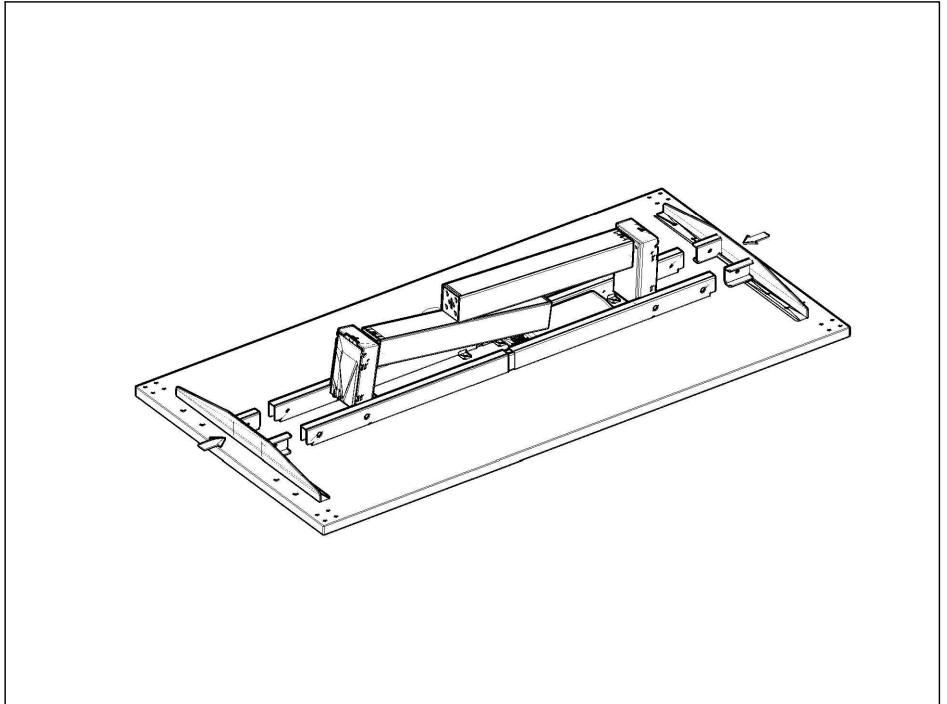

FIGURE 7
7. Install the top side frame to the main frame by inserting it into the main frame (Figure 7).